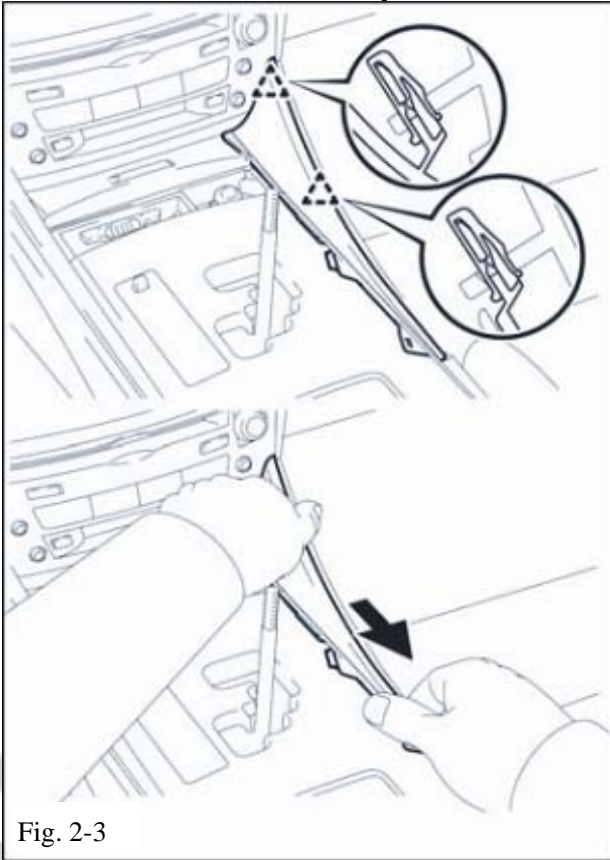

Fig. 2-3
- (2) By hand gently pull upward and back to remove side trim. Remove both sides using same process. (Fig. 2-3)